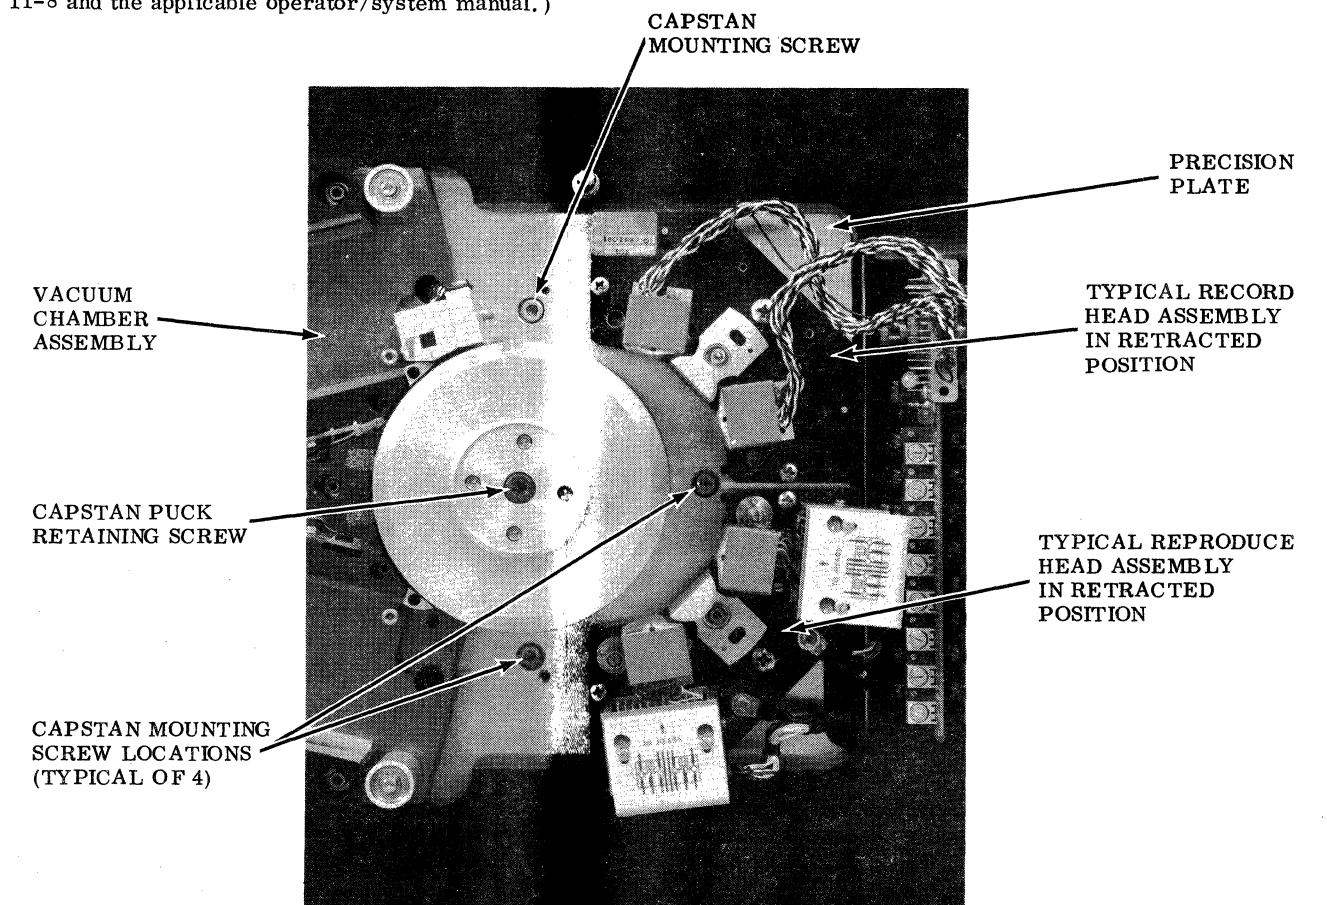

Figure 11-8. Capstan and Capstan Puck Mounting Details
- b. Remove tape from the transport and retract both head assemblies as for cleaning. (See Figure 11-8 and the applicable operator/system manual.)
- d. Carefully support the capstan assembly from behind the transport, and remove the four #10-32 mounting screws from the front of the precision plate. (Figure 11-8)